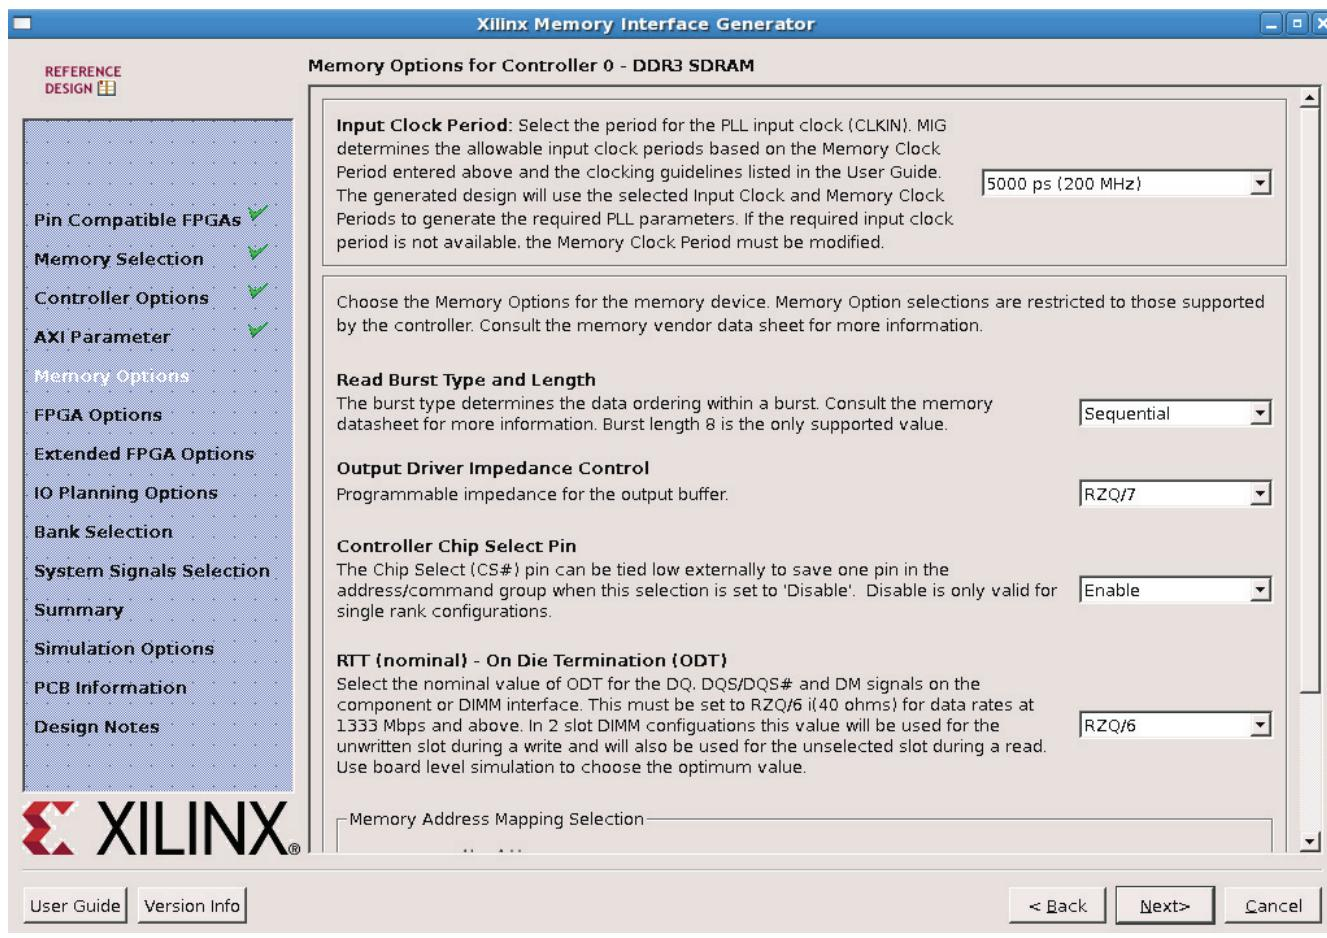

Figure 35: MIG Memory Mode Options
23. For Memory Options, make the following selections, then click **Next** (Figure 35):